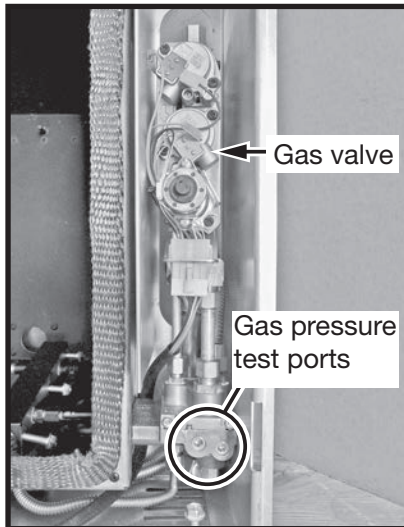

Figure 40: Gas valve location.
2. Locate the inlet and outlet test points on the valve which can be seen in (Figure 40). After locating test ports loosen the cap ends within the ports using a 3/16" Allan key.